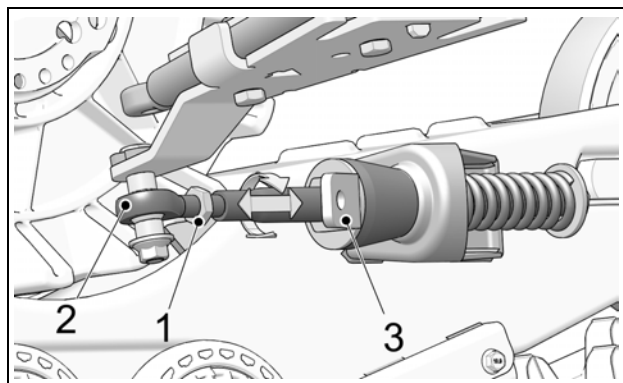

Figure 6
- Loosen jam nut (1). Adjust length of rod end (2) by rotating the steering limiter support plate on (3) the stabilizing arm. Use a 30 mm wrench to rotate support plate to obtain a perfectly centered bubble in the level. Refer to Figure 6.
*NOTE:* Stabilizing arms on front Track Systems incorporate a steering limiter support plate (3) that is bent. This plate should be positioned inwards, towards the vehicle.